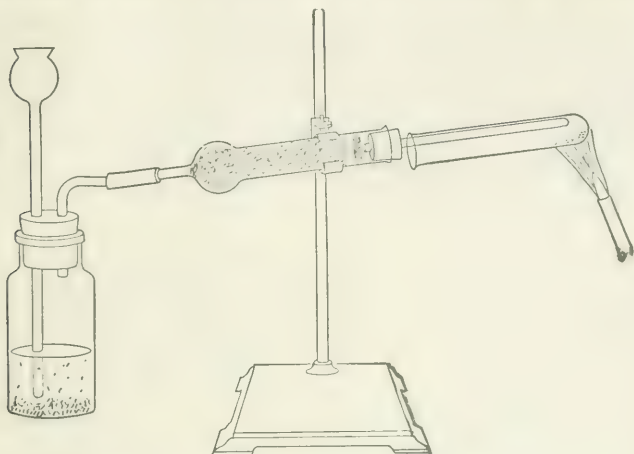

Fig. 26. Reducing copper oxide with dry hydrogen.
**b.** Place about 0.5 cc. of black copper oxide in the bottom of a dry test tube and place the latter in a slightly inclined position with mouth downward (Fig. 26). Insert a straight piece of glass tubing into the stopper of the drying tube and introduce this tubing into the test tube until the end touches the copper oxide.